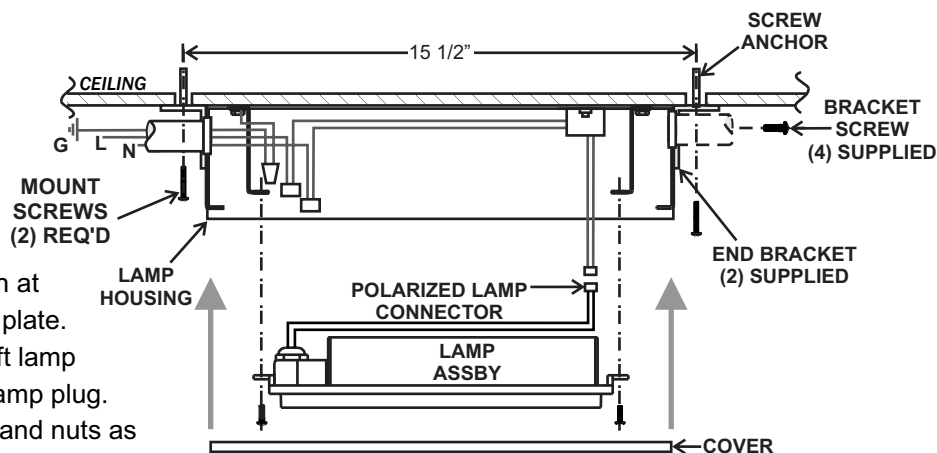

Fig.2
1. See Fig 2. Install (2) screw anchors at 15 1/2" centers.
2. Insert flat blade screwdriver under notch at end of cover, twist gently to release cover plate. Unscrew (4) #8 lamp assembly screws, lift lamp assembly from Housing and disconnect lamp plug.
3. Attach end brackets with (4) #8 screws and nuts as shown, mount housing assembly to ceiling and route 120/77 VAC IN/OUT wiring into housing.